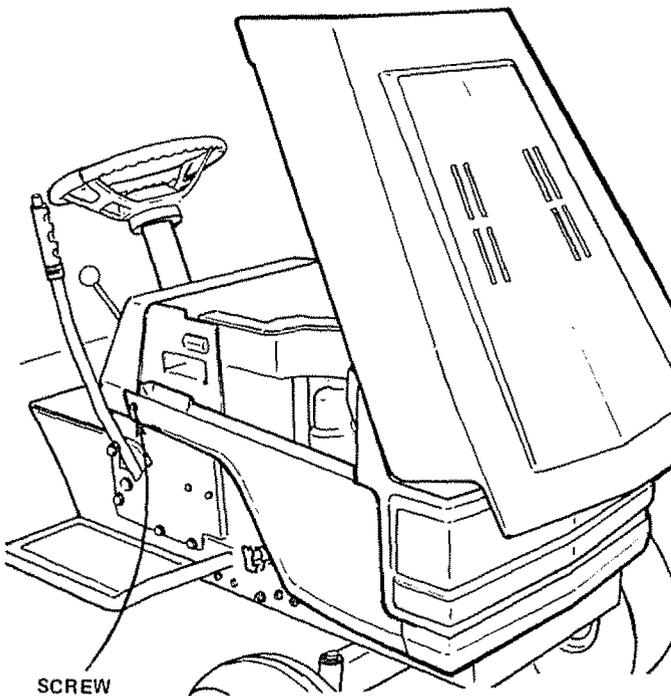

FIGURE 7
- To remove Hood, Grill and Side Panels, raise Hood and loosen one screw on each Side Panel. (The screw remains in the Side Panel) (Fig. 7).